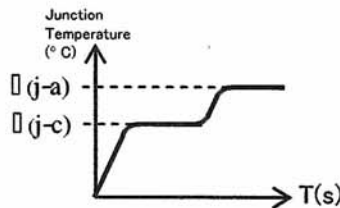

Figure 3. $\theta(j-a)$ Characteristic Plot
- For example, with heating power 1W(1V,1A) initiated at the heating element and the temperature sampling interval from 0 to 500us to ensure thermal equilibrium is reached, the temperature dependent voltage, V_f is measured and converted to junction temperature as shown in Figure 3.